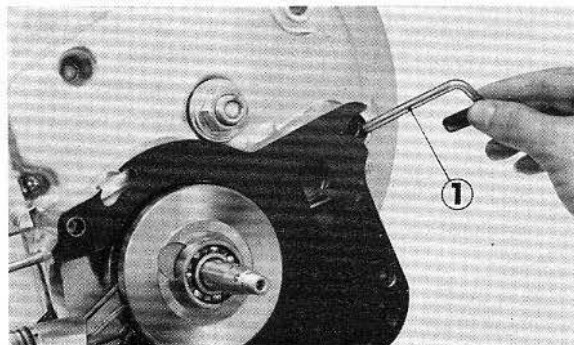

Fig. 2-49 ① Free pawl slider
1. Assemble the crankshaft and the free pawl slider. (Fig. 2-49)